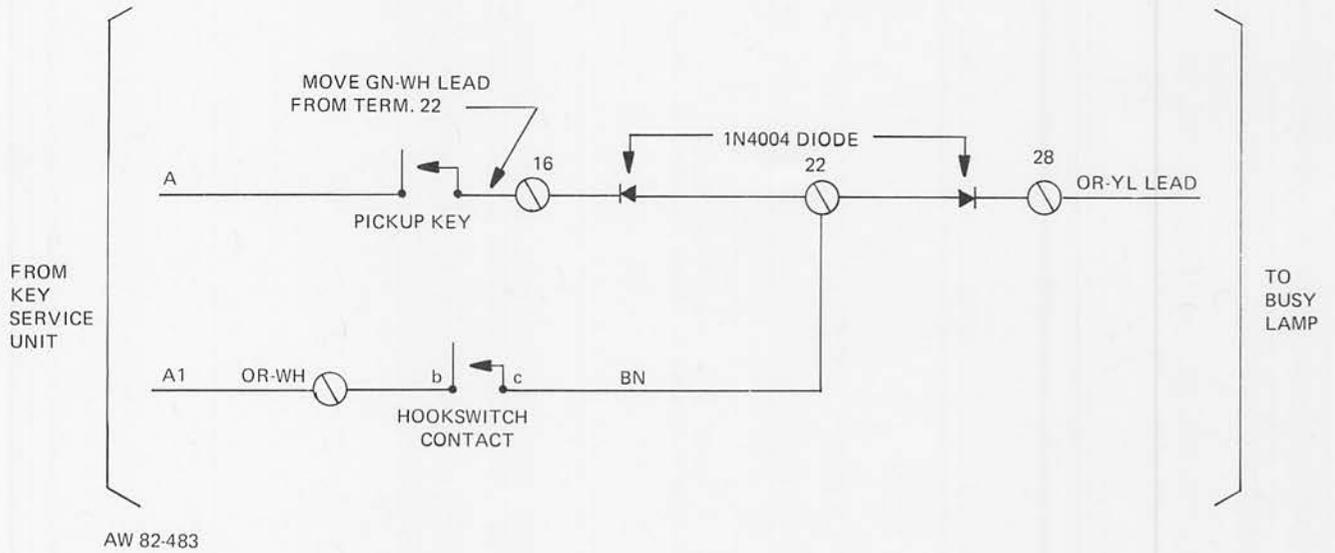

Figure 3: Busy Lamp Connections For 10-Button Telephones with Feature Code 42
10.01 Busy lamp connections may vary depending on the type of key system being used. Modifications for the 10-button wall telephones with feature code 42 should be as follows: (Refer to Figure 3.)
- Connect one 1N4004 diode between terminals 22 and 16 on the terminal board, and connect another 1N4004 diode between terminals 22 and 28 on the terminal board as shown in Figure 3.